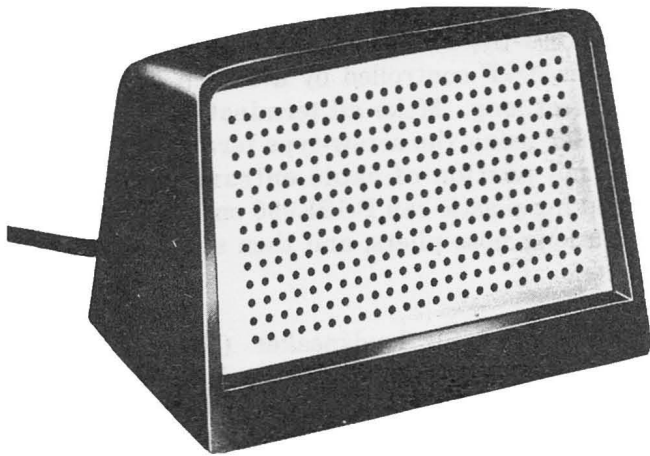
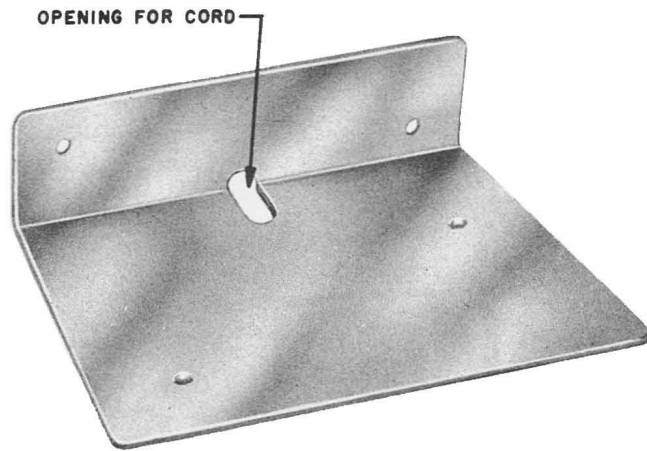
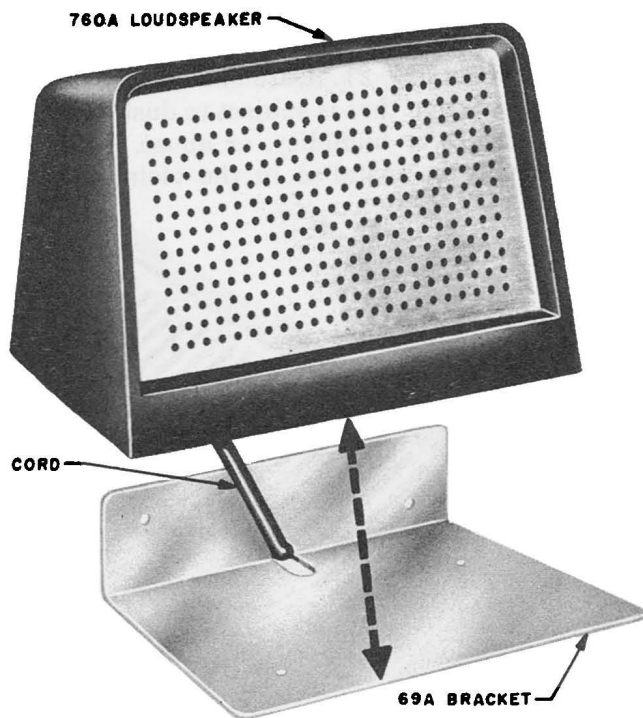

Fig. 4 - 760A Loudspeaker
Fig. 5 - 69A Bracket
Fig. 6 - 760A Loudspeaker with 69A Bracket
3.05 The 760A loudspeaker (Fig. 4) may be installed in either of two ways. As shipped from the factory, it is equipped with a 5-1/2 foot cord and a base pad so that it may be placed on a table, counter top, shelf, etc. The cord is connected to the same connecting block as the associated telephone set cord. When the associated telephone is a wall type, the cord from the loudspeaker is terminated in the wall set. When a wall mounting is required, a 69A bracket (Fig. 5) may be attached to the wall, or other vertical surface, and the 760A loudspeaker fastened to it by means of two screws furnished with each bracket (see Fig. 6). On some wall-mounted installations it may be more appropriate to use paired JKT inside wire instead of the cord furnished with the loudspeaker.